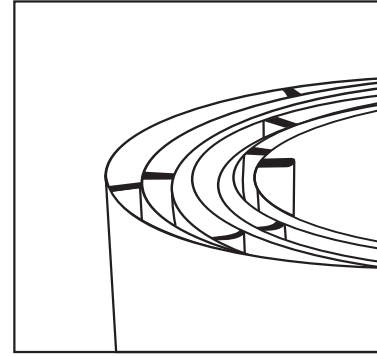

Fig. 1
- D. Prepare your installation as shown in the illustrations. (Assemble barrier as shown in fig. 1)